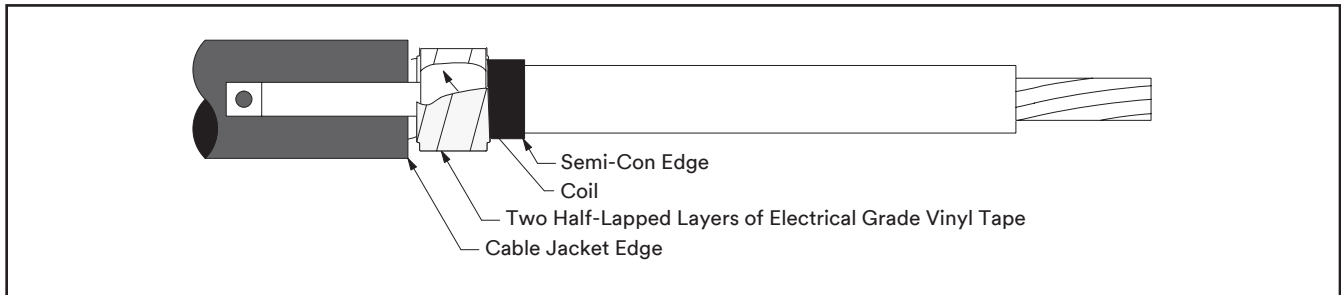

Figure 3
3.3 Hold coil in place with thumb. Pull coil around the cable allowing it to unwrap and rewrap around the shielding and itself (Figure 3).
3.4 Wrap two highly stretched half-lapped layers of electrical grade vinyl tape around the coil and exposed tape shield (Figure 3). DO NOT tape onto the cable jacket.